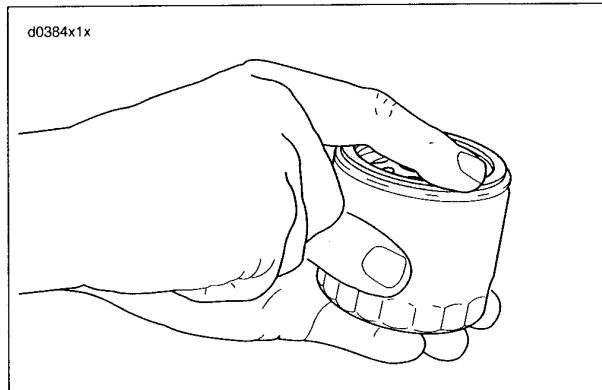

Figure 1-5. Lubing New Oil Filter
5. See Figure 1-5. Lube the gasket on new oil filter with engine oil and install new filter. Hand tighten oil filter 1/2 to 3/4 turn after gasket contacts filter mounting surface. Do NOT use oil filter wrench for oil filter installation.